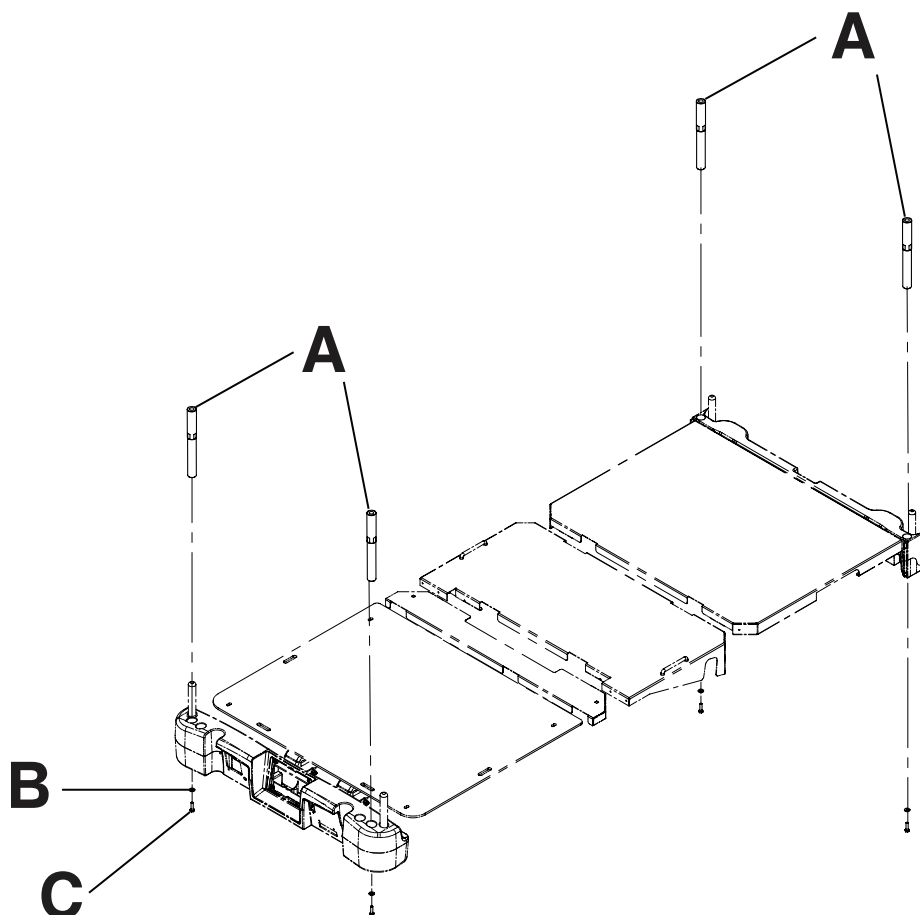

Figure 135: Traction sleeves
1. Attach the traction sleeves into the sockets at the head end and foot end of the product (A) (Figure 135 on page 117).
2. Using a 7/16 in. combination wrench, attach one washer (B) and one bolt (C) to secure the traction sleeve in the socket (Figure 135 on page 117).